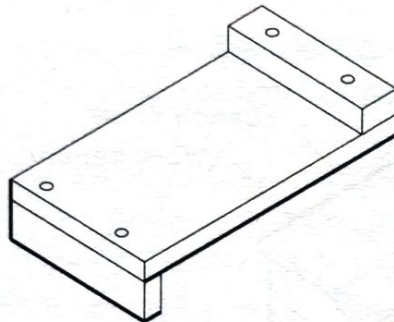

FIGURE 6.11
3. *Bench stop (hook):* A bench stop or hook is a wooden block of shape as shown in Figure 6.11. This is placed on the edge of the work bench in order to prevent the workpiece moving forward, while planing or chiselling.